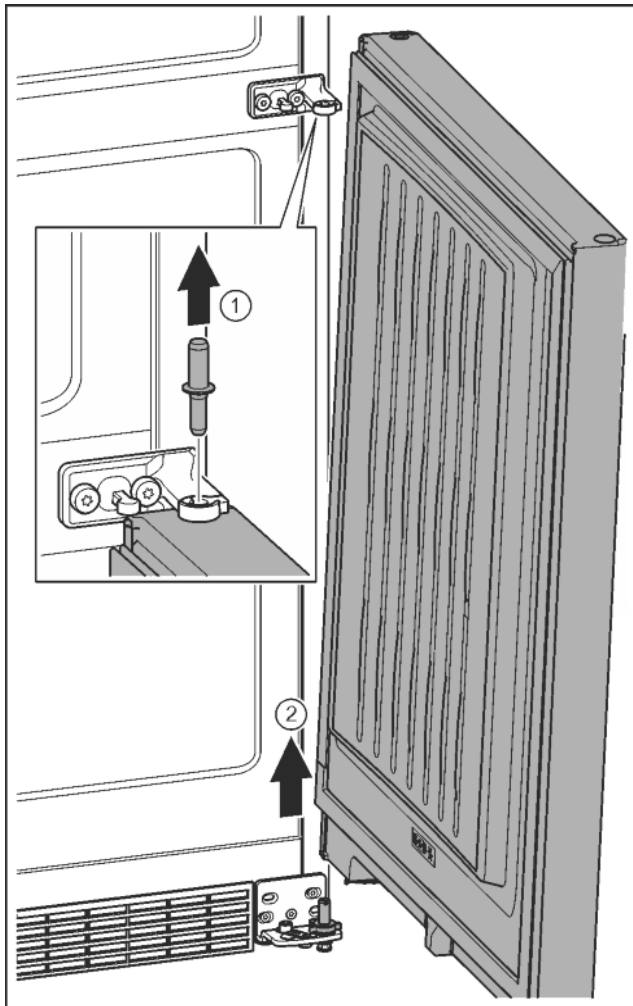

Fig. 11
- ▶ Pull out the bolts towards the top. Fig. 11 (1)
- ▶ Swing the door out, pull it upwards and set it aside. Fig. 11 (2)